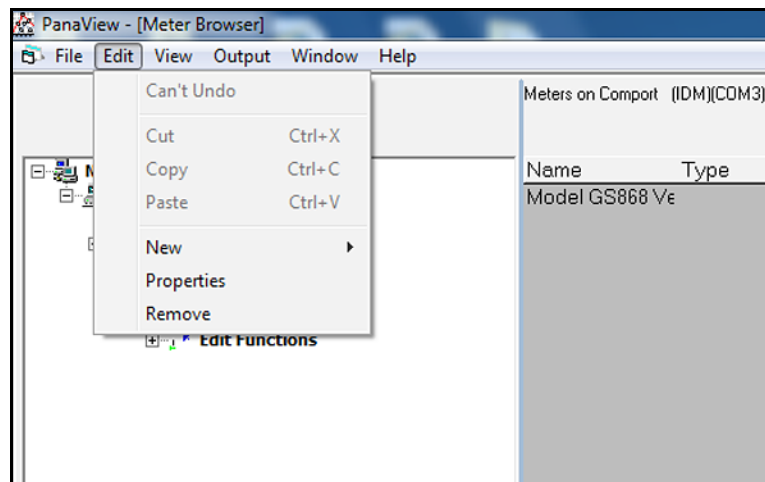
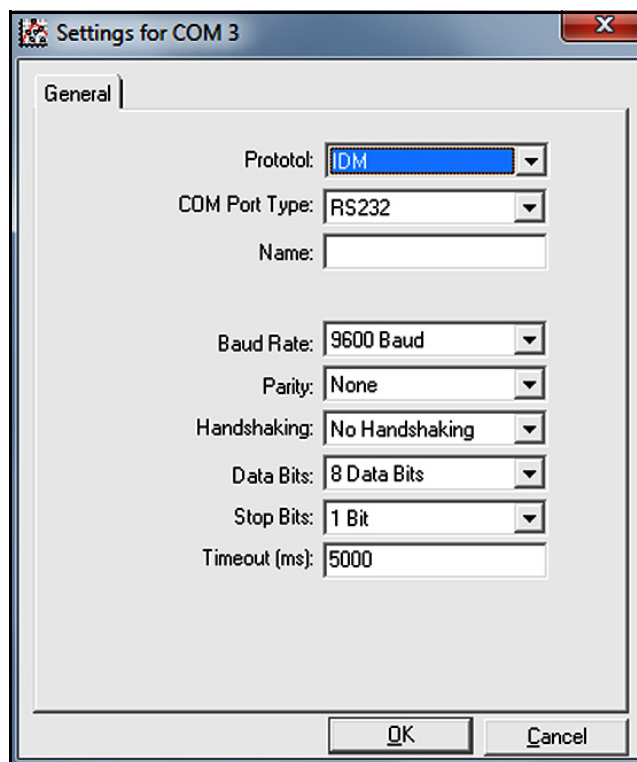
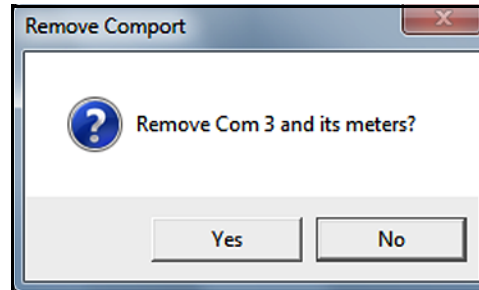

Figure 50: The Edit Menu
Figure 51: Communication Port Settings
Figure 52: Port Removal Confirmation
3. With the desired communication port highlighted, open the edit menu as shown in *Figure 50* below.
1. From the "Edit" menu shown in Figure 50 on page 43, Click "Properties" option to open the dialog box shown in Figure 51 below.
1. From the "Edit" menu shown in Figure 50 on page 43, Click "Remove" option to open the dialog box shown in Figure 52 below.